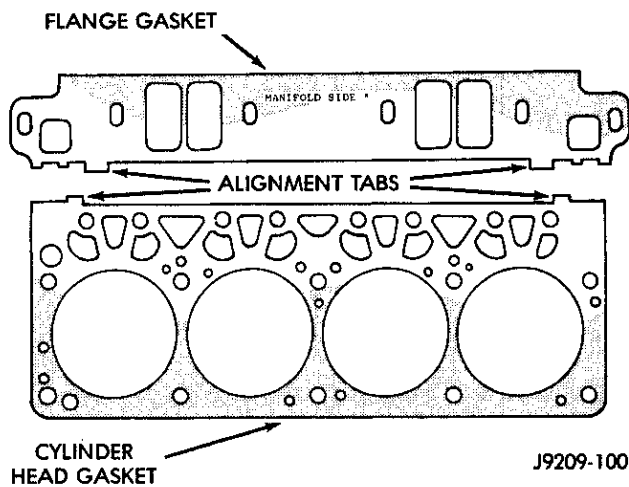
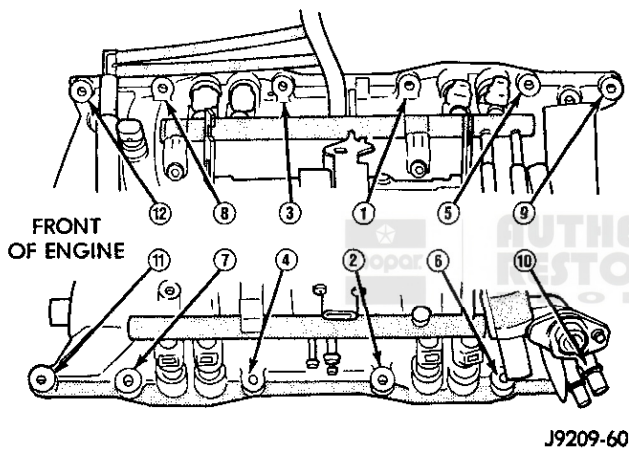

Fig. 17 Intake Manifold Flange Gasket Alignment
Fig. 18 Intake Manifold Bolt Tightening Sequence
(9) Install the flange gaskets. Be sure that the vertical port alignment tab is resting on the deck face of the block. Also the horizontal alignment tabs must be in position with the mating cylinder head gasket tabs (Fig. 17). The words MANIFOLD SIDE should be visible on the center of each flange gasket.
(10) Carefully lower intake manifold into position on the cylinder block and cylinder heads. Use the alignment dowels in the cross-over gaskets to position the intake manifold. After intake manifold is in place, inspect to make sure seals are in place.
(11) The following torque sequence duplicates the expected results of the automated assembly system (Fig. 18).